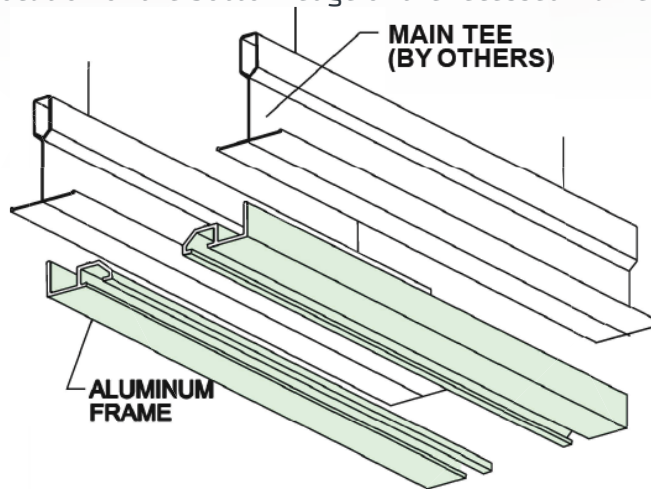
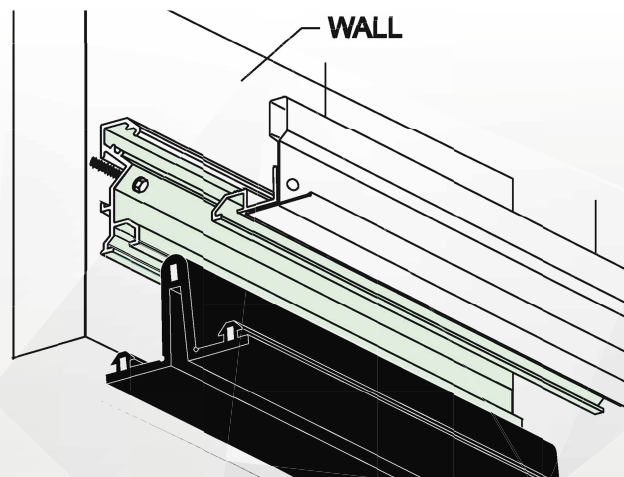

FIGURE 1
FIGURE 2
2. For ceiling to ceiling system (C-WE), place frames snugly against the inside corner of the main tees with the recessed slots visible (see Figure 1). For ceiling to wall system (CK-WE), place the recessed wall frame against the adjacent wall making sure the bottom of the frame is level with the frame at the tee (see Figure 2). Transfer the location of the bottom edge of the recessed frame to the wall using a marker.